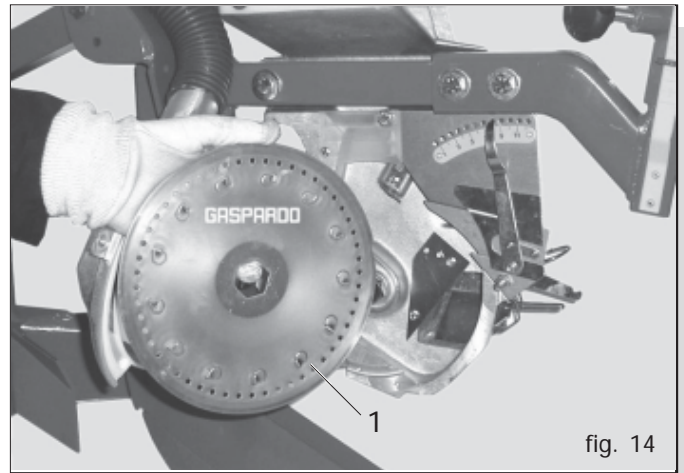

fig. 14
- The disk must be assembled with the pegs (1 Fig.14) pointing towards the inside of the distributor.